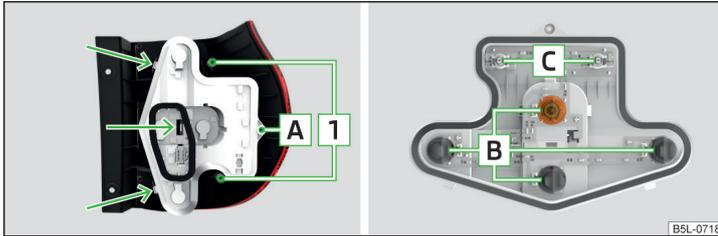
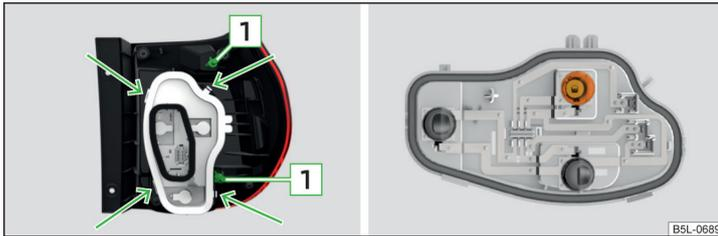

Fig. 205 Inner part of the light: Ground light
Fig. 206 Inner part of the light: Light with LED diodes
- > Carefully press the light into the body so that the bolts **1** » Fig. 205 on page 221 or » Fig. 206 on page 221 on the light engage into the mounts on the body.
- With the spanner from the vehicle tools unscrew the securing screw **A** » Fig. 205.
- Unlock the bulb holder using the locking latches in the areas » Fig. 205 marked with arrows and remove the bulb holder from the light.
- Unlock the bulb holder using the locking latches in the areas » Fig. 206 marked with arrows and remove the bulb holder from the light.
- Turn the respective light bulb » Fig. 206 until it stops **counter-clockwise** and remove it from the bulb holder.